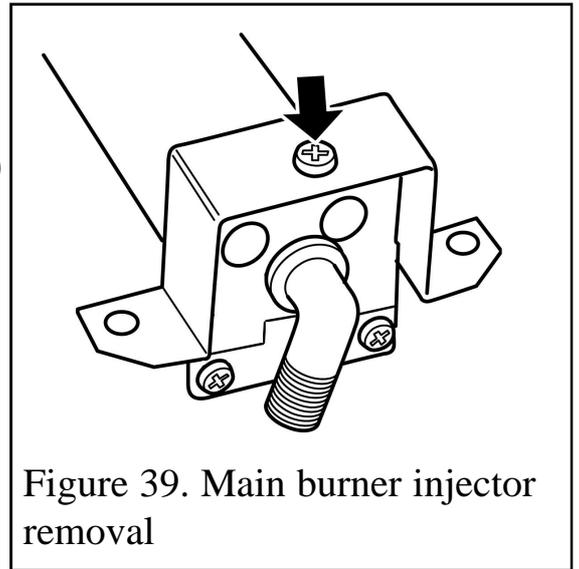

Figure 39. Main burner injector removal
(See figure 39).
2. Remove the burner clamping screw (See figure 39)